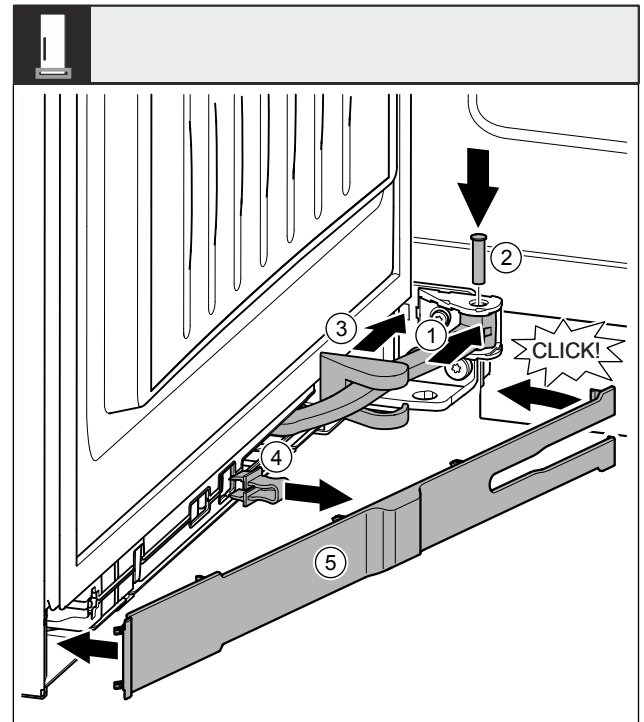

Fig. 43
- ▶ Turn the joint Fig. 43 (1) in the hinged suspension.
- ▶ Use a screwdriver to insert the pin Fig. 43 (2) into the hinged suspension and joint. In the process, make sure that the latching cam is correctly positioned in the groove.
- ▶ Slide the swap bearing block cover Fig. 43 (3) along the joint and install it above the hinged suspension.
- ▶ Remove the locking device. Fig. 43 (4)
- ▶ Attach the panel Fig. 43 (5) from the handle side and swivel it on.